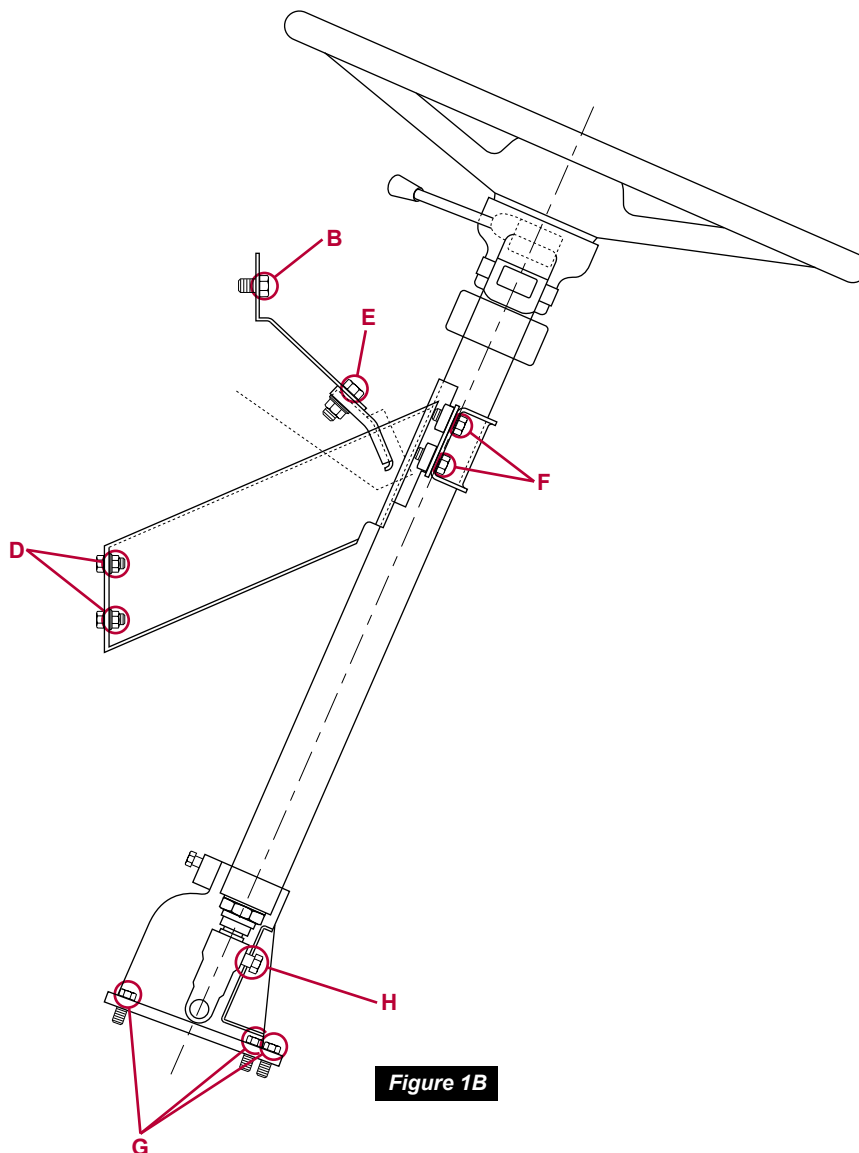

Figure 1B
Several steps in this repair procedure will reference the threaded fasteners securing the steering column to the mounting brackets, and securing the mounting brackets to the cab. The following fastener identification illustration (*Figure 1B*) has been provided to assist in locating each fastener as referenced by the repair procedure.
STEP 5: Using a 1/2" socket, torque the (2) hex head cap screws (*Figure 1B, fastener B*) to 13 ft-lbs (± 2 ft-lbs) (*Figure 19*).
STEP 6: Using a 1/2" socket, torque the (4) hex nuts (*Figure 1B, fastener D*) to 13 ft-lbs (± 2 ft-lbs) (*Figure 20*).
STEP 7: Using a 5/8" socket, torque the (2) hex head cap screws (*Figure 1B, fastener E*) to 55 ft-lbs (± 5 ft-lbs) (*Figure 21*).
STEP 8: Using a 9/16" socket, torque the (4) hex head cap screws (*Figure 1B, fastener F*) to 35 ft-lbs (± 3 ft-lbs) (*Figure 22*).
STEP 11: Using a 1/2" socket, torque the (4) hex head cap screws (*Figure 1B, fastener G*) to 18 ft-lbs (± 2 ft-lbs) (*Figure 23*).
STEP 13: Using the torque wrench with a 11/16" socket and the 5/8" box wrench, apply 60 ft-lbs (± 6 ft-lbs) to the universal joint pinch bolt (*Figure 1B, fastener H*).